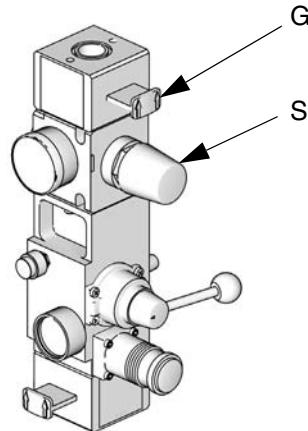

FIG. 11
3. Open the air motor air slider valves (G), FIG. 11. Make sure the catalyst bypass valve is closed (H), FIG. 12.